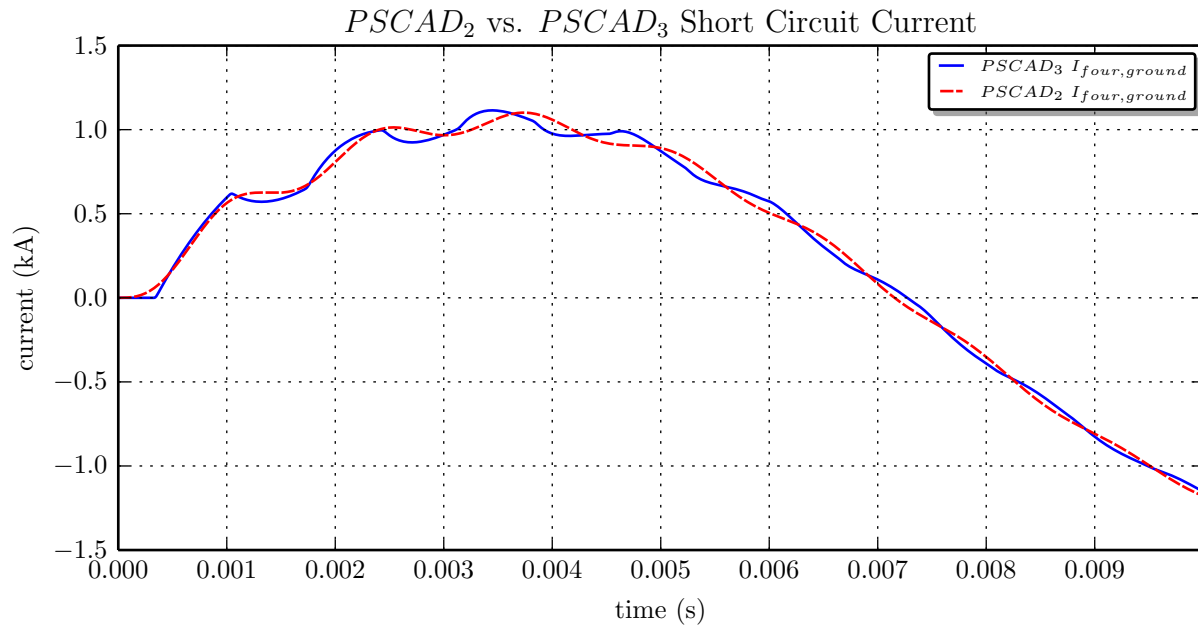

Figure 16: Zoomed plots of $I_{four,ground}$ short circuit current (zoomed at simulation start)
- There are subtle differences between the previous assignment and this assignment. They can be observed at the very beginning of the simulation and when the breaker is opened. For example, when looking at the short circuit solution zoomed in at the beginning in Figure 16, we see that assignment 3's solution starts with a flat line - likely due to the interpolator returning 0 for values beyond our history table at the very beginning. We don't see this in assignment 2 because we only assume values for $t = 0$.